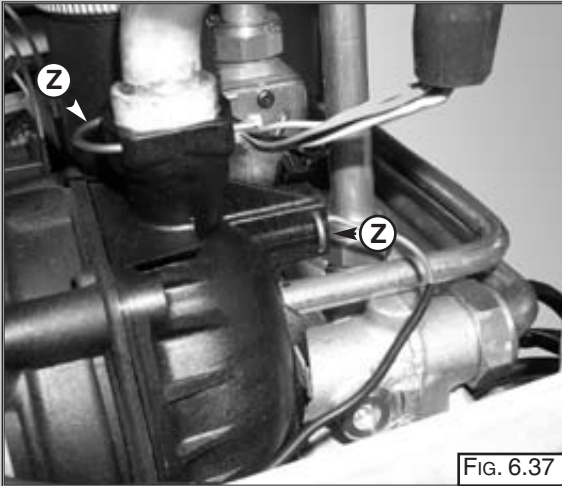

FIG. 6.37
1. Remove the U-clip "Z" (FIG. 6.37);